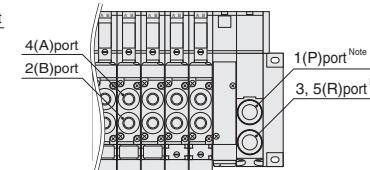

Figure 7
- Perform piping carefully in regards to the locations of each connection port (see Figs. 7, 8).